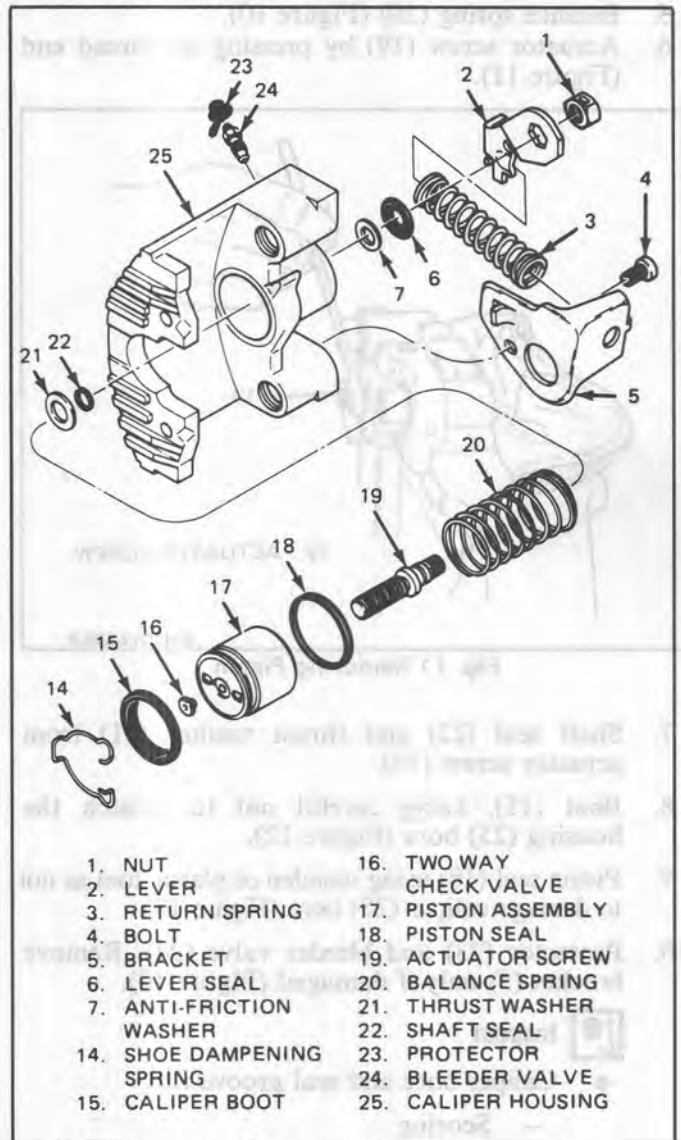

Fig. 10 Caliper Assembly
Figures 10 through 12
2. Shoe retainer spring (14) from end of piston (17) by rotating retainer until inside tabs line up with notches in piston (Figure 10).